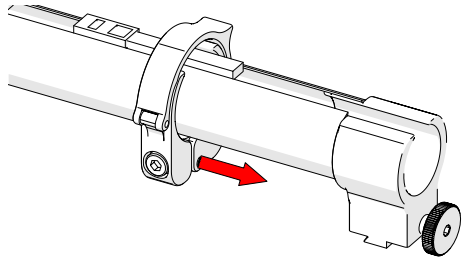

Fig. 38 - Slide clamp onto mount
3. Slide the clamp over the sleeving and cable management dovetail mount, pinching the sleeving in between (*Fig. 38*).